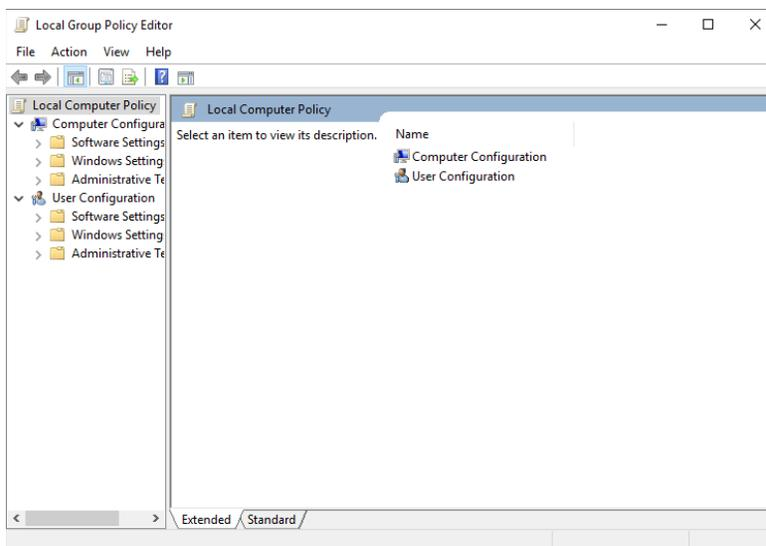

Figure 62: Microsoft Group Policy Editor
2. The GPE window displays as shown in Figure 62: Microsoft Group Policy Editor.